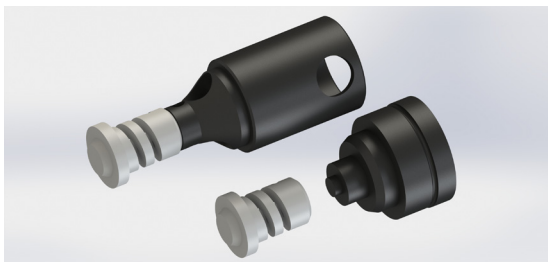

Figure 20
Then connect the spring loaded valve (10) to the valve plug (9) (see figure 20 and 21)